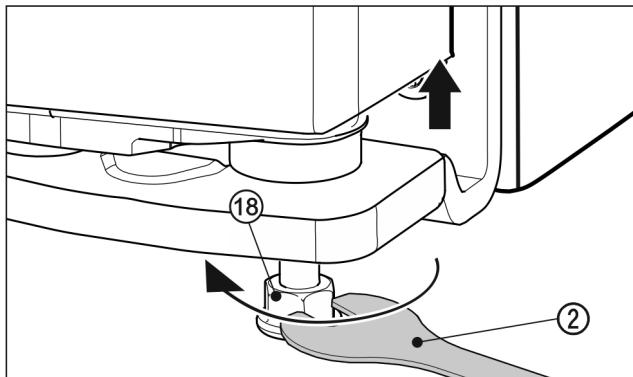

Fig. 21
- To lift the door, unscrew the adjusting foot *Fig. 21 (18)* clockwise using the supplied open-ended spanner *Fig. 21 (2)* until the foot makes contact with the floor. Then continue turning until the door is adjusted to the right height. When delivered, the bearing pin is completely screwed in.